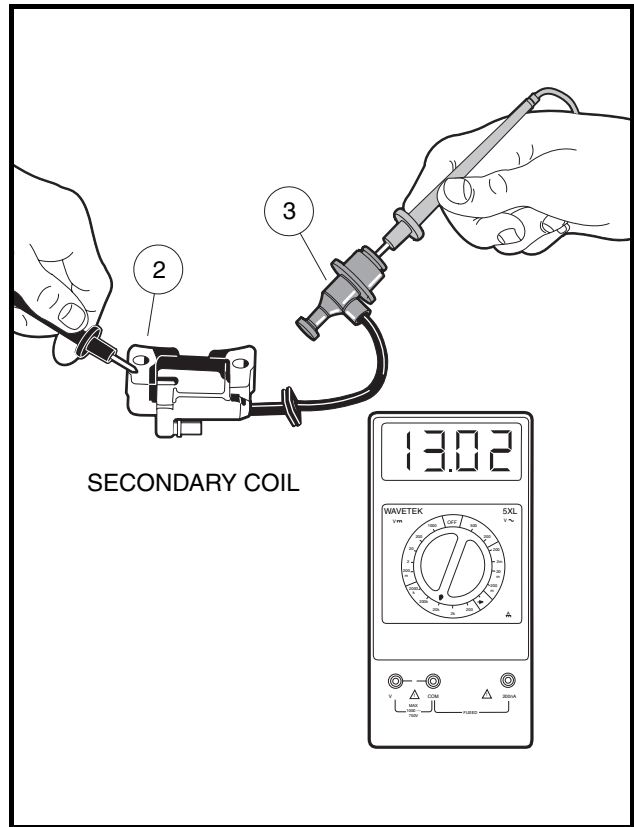

Figure 11-31 Secondary Coil and Cap Resistance – Bench Test
- 3.1. Place the red (+) probe of the meter into the end of the spark plug cap that normally connects to the spark plug (3) and place the black (–) probe on the core (2) (**Figure 11-31, Page 11-27**).